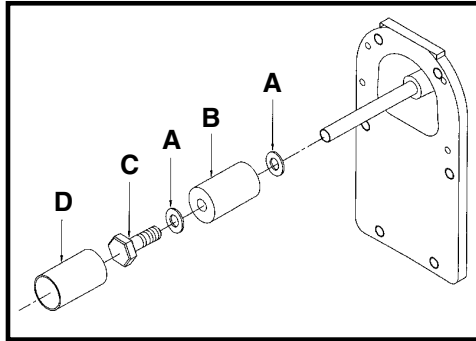

Fig. 1
The quick release drum system is easy to assemble and convenient to use. Fig. 1.
Note: When installing a $\frac{1}{2}$ " sanding sleeve onto the shaft, do not use the rubber drum (B) or washers (A) Fig. 1.
1. Place washer (A) onto the spindle shaft.
2. Place rubber drum (B) onto the spindle shaft.
3. Place second washer (A) over the bolt hole opening.
4. Thread $\frac{5}{16}$ -24" locking bolt (C) onto the shaft, but do not tighten.
5. Slide sanding sleeve (D) over the rubber drum (B); (make sure the sanding sleeve (D) is flush with the rubber drum (B).)
6. Now tighten the $\frac{5}{16}$ -24" locking bolt (C) onto the shaft, to hold the sanding sleeve (D) in place.